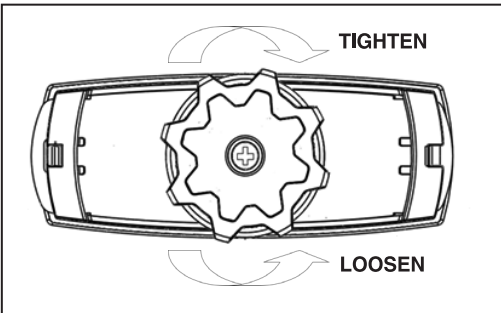

FIG. 2
6.2 MASK ADJUSTMENT – FIGS. 2 - 5